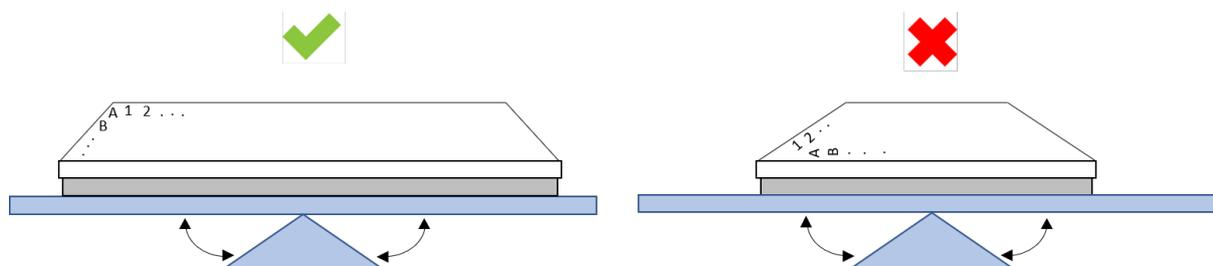

Figure 7: Place the OrganoPlate® on the OrganoFlow® rocker in the correct orientation
12. Place the plate on the OrganoFlow® in a humidified incubator to start cell culture (see figure 7)